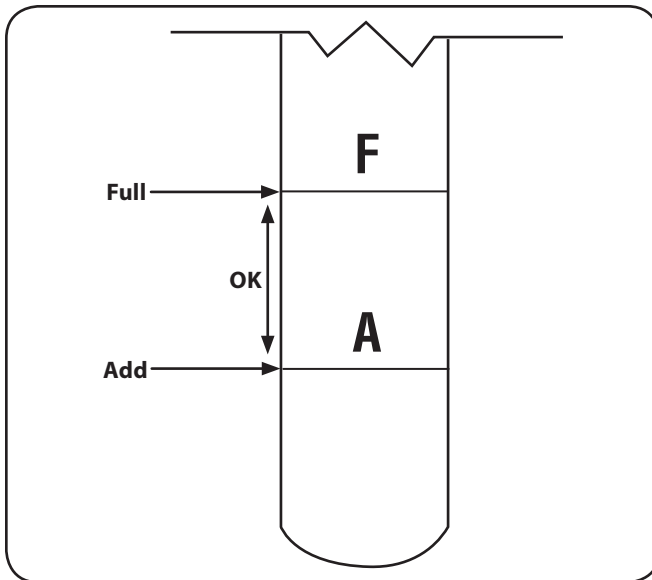

Figure 6-2
1. Remove the dipstick and check the level. See Fig. 6-2.
7. Remove the oil fill plug/dipstick from the oil fill port and SLOWLY pour oil into the oil fill port. Fill the transmission case until the oil level reaches the "FULL" mark on the dipstick Refer to Fig. 6-2.